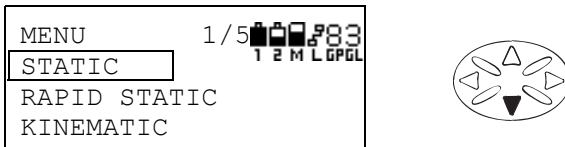

Figure 3-4. Use Cursor Key to Navigate Menu
2. In MENU mode, press the **down cursor key** (Figure 3-4) until SLEEP MODE displays on menu page 5/5.